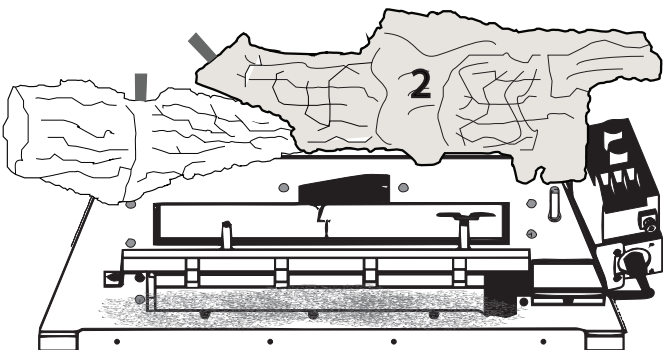

Figure 6.21 - Log #2 Placement
3. Place Log #2 on the right-hand side of the burner assembly by positioning the pin locator hole onto the log pin on the right-hand side of the burner; then rotate the part to the back. When in place, make sure the back of Log #2 is up against the bend on the back of the burner assembly. See Figure 6.21.